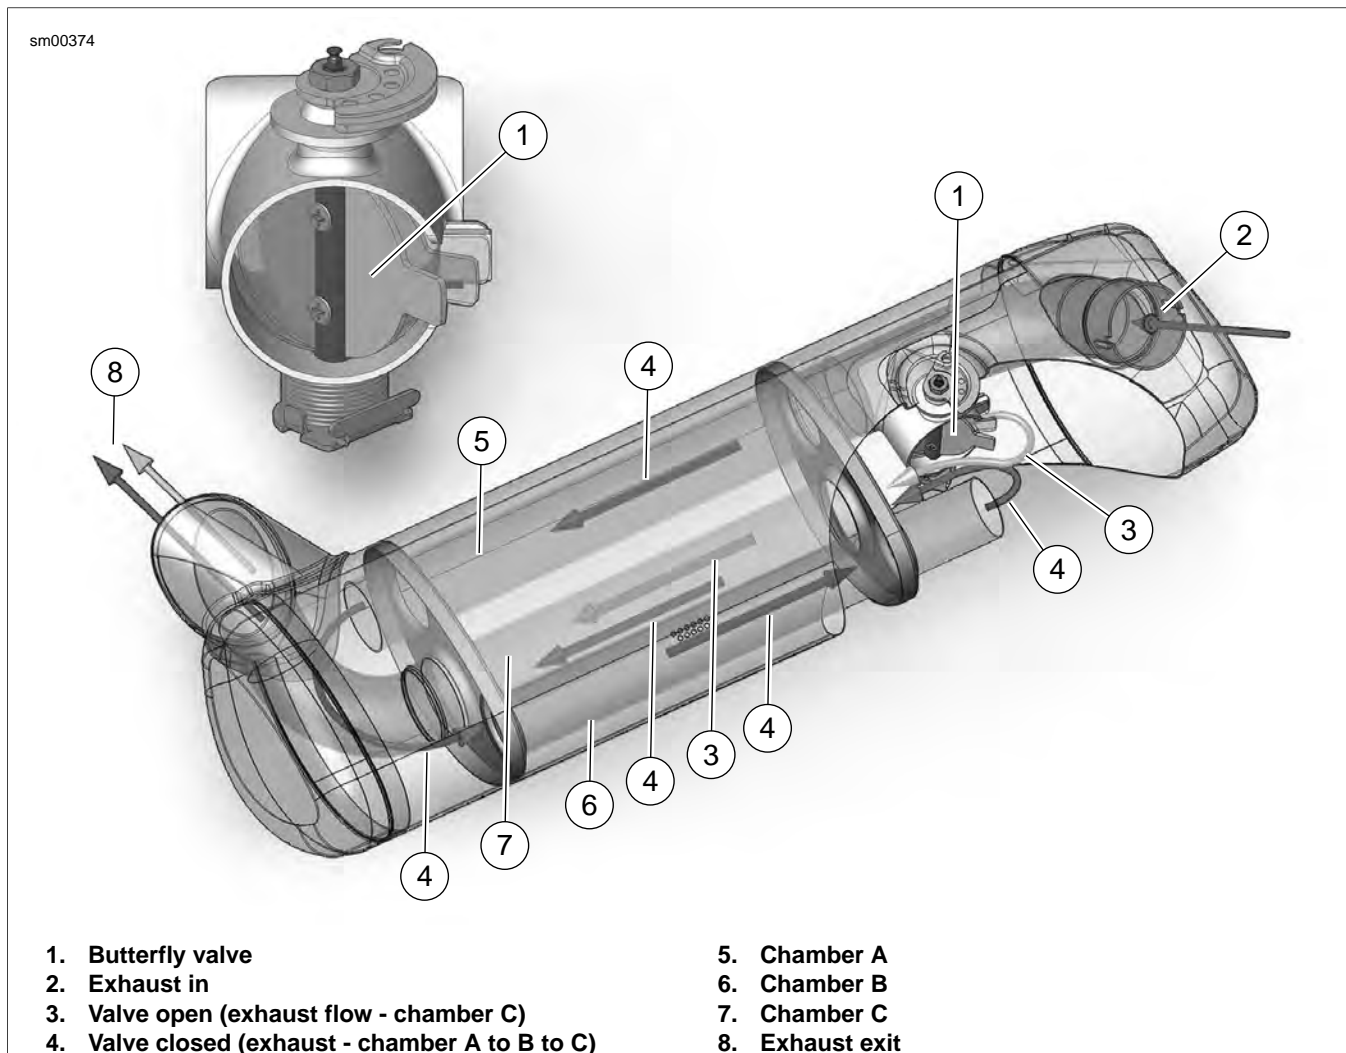

Figure 6-58. Interactive Exhaust System Muffler
See Figure 6-58. An electronically controlled actuator opens or closes a butterfly valve (1) that controls exhaust flow in a multi-chamber muffler.